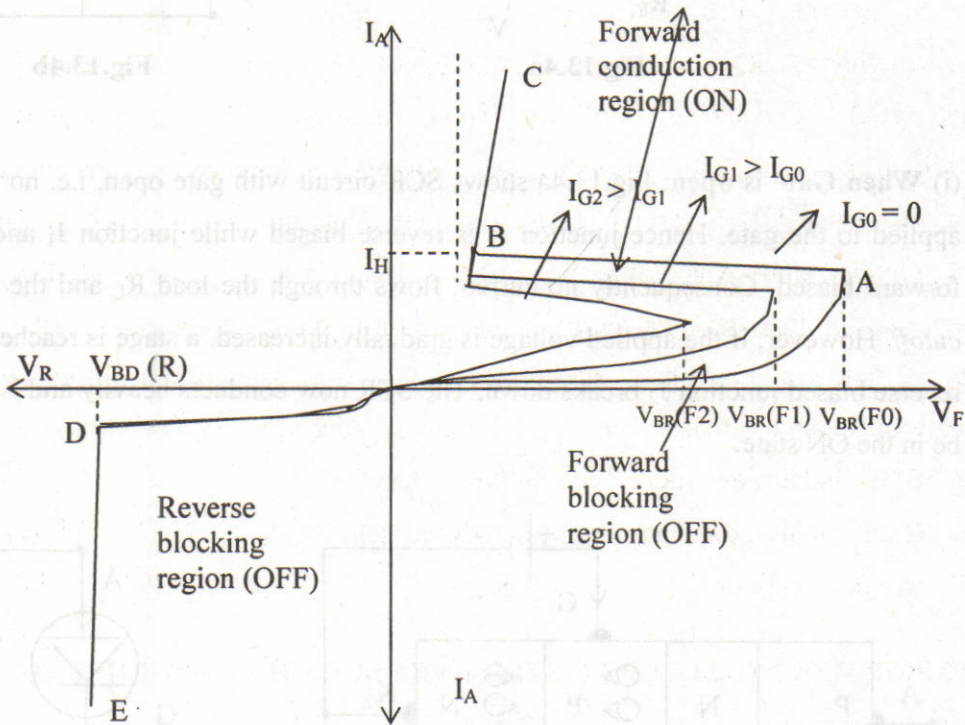

Fig.13.6
It is a curve drawn between anode-cathode voltage (V) and anode current (I) of an SCR at constant gate current. Fig.13.6 shows the V-I characteristic of an SCR. The characteristics can be divided in two cases.
When anode is positive with respect to cathode, the curve between voltage (V) and current (I) is called the *Forward characteristic*. In Fig.13.6, OABC is the forward characteristic of SCR at $I_G = 0$. If the supply voltage is increased from zero, a point A is reached when the SCR starts conducting. Under this condition, the voltage across SCR suddenly drops as shown by dotted curve AB. Now most of the supply voltage appears across the load resistance R_L . If proper gate current is
When anode is negative with respect to cathode, the curve between voltage (V) and current (I) is called the *Reverse characteristic*. In Fig.13.6, ODE is the reverse characteristic of SCR. If the reverse voltage is gradually increased from zero, at first the anode current (leakage current) remains small and at some reverse voltage, avalanche breakdown occurs and the SCR starts conducting heavily in the reverse direction. This behaviour is shown in the curve by DE. The maximum reverse voltage at which SCR starts conducting heavily is known as Reverse Breakdown voltage. SCRs with currents in excess of 100A and operating voltage up to about 1000V are available. The holding voltage is of the order of magnitude 1V. The ratio of the continuous allowable anode current to the forward gate current required to switch ON is rarely less than several thousands. For example a gate current of less than 50mA will turn on an anode current of 100A. As can be seen from the above discussion, the characteristics of SCR are controlled by anode-cathode voltage and gate-cathode voltage. It is turned on by proper gate current and without exceeding breakdown voltage. The anode current is reduced to holding value while turning off. It conducts only during one half of each cycle